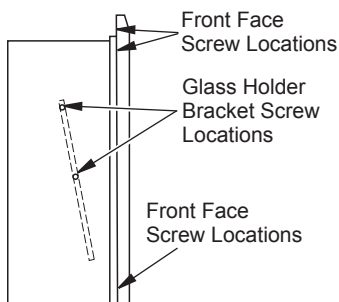

Figure 7 - Glass Bracket and Front Face Screw Locations
1. Remove front face by removing screws. Screws are located on the back side of the front face around the outer edge (see Figure 7).
2. Remove screws from glass holder brackets. The brackets are located on the inside of the fireplace and the screws to be removed are on the outside (see Figure 7 for screw and glass location).